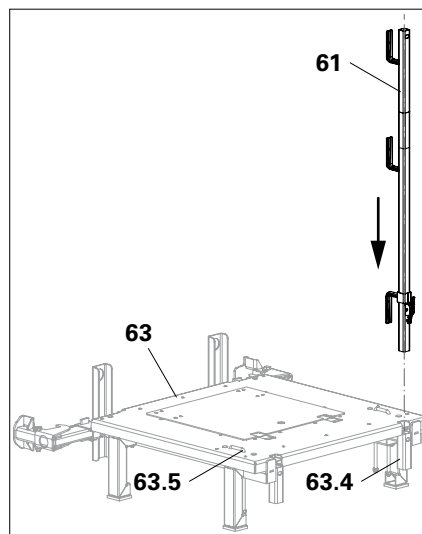

Fig. A7.12
1. Insert Guardrail Post (61) in the post holder (63.4) – 2x. (Fig. A7.12)